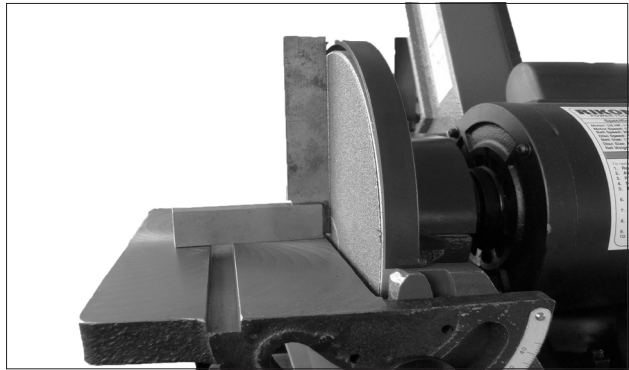

Fig.31
2. Place a machinist's square or other 90° measuring tool against the disc table and sanding disc (see Figure 31).